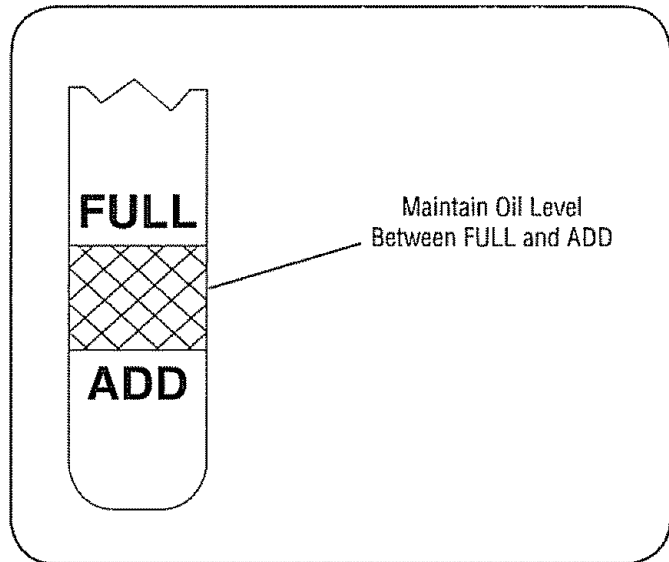

Figure 13
1. With engine on level ground, oil must be to FULL mark on dipstick. See Figure 13.